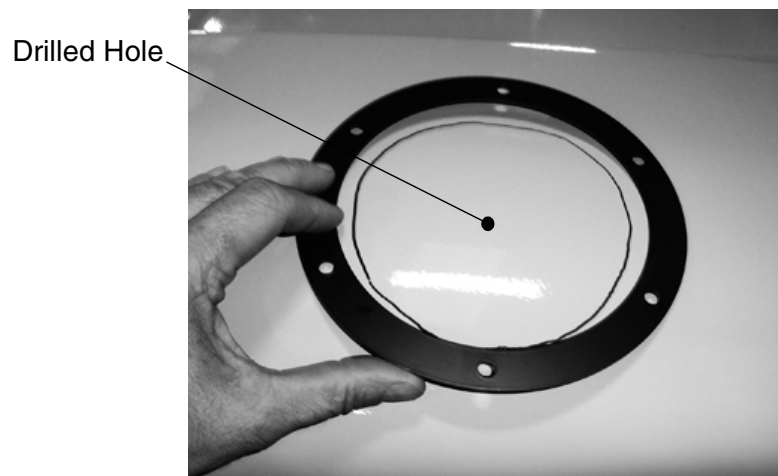

Figure 10
6. Place the metal flange ring on top of the hood with the drilled hole at the center (Figure 10).